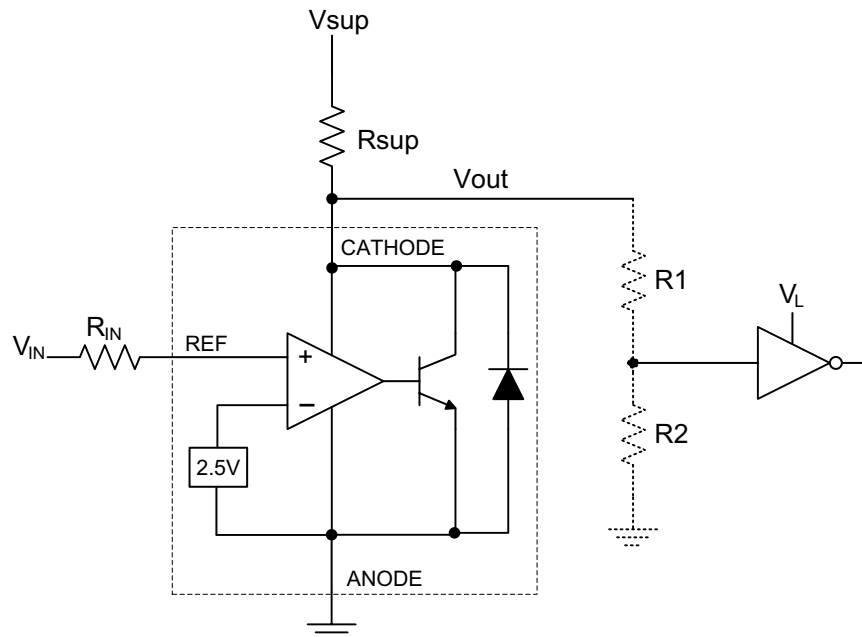
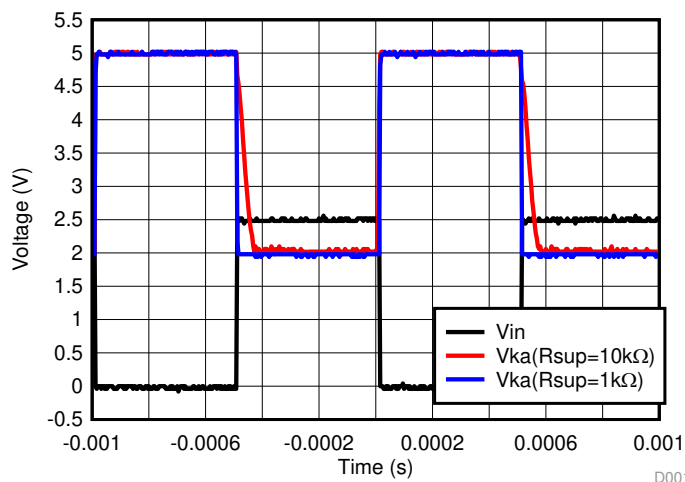

图 20. Comparator Application Schematic
图 21. Output Response With Various Cathode Currents
In the configuration shown in 图 20, TL43xLI-Q1 behaves as a comparator, comparing the VREF pin voltage to the internal virtual reference voltage. When provided a proper cathode current (IK), TL43xLI-Q1 has enough open loop gain to provide a quick response. This can be seen in 图 21 where the RSUP = 10 kΩ (IKA = 500 μA) situation responds much slower than RSUP = 1 kΩ (IKA = 5 mA). With the TL43xLI-Q1 max operating current (IMIN) being 1 mA, operation below that can result in low gain, leading to a slow response.
As seen in 图 21, the output low level voltage of the TL43xLI in open-loop/comparator mode is approximately 2 V, which is typically sufficient for 5 V supplied logic. However, this does not work for 3.3 V and 1.8 V supplied logic. To accommodate this, a resistive divider can be tied to the output to attenuate the output voltage to a voltage legible to the receiving low voltage logic device.
When using a resistive divider on the output, make sure the sum of the resistive divider ( $R_1$  and  $R_2$  in 图 20) is much greater than  $R_{SUP}$  to not interfere with the ability of the TL43xLI to pull close to  $V_{SUP}$  when turning off.